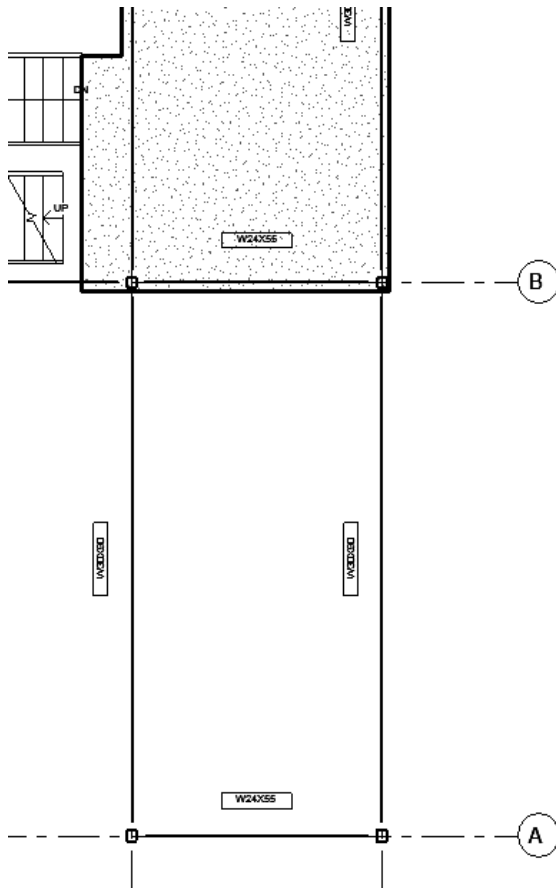

FIGURE 7-4.5 Revised floor boundary
21. Modify the floor boundary so it stops at Grid **B**, as shown in Figure 7-4.5.